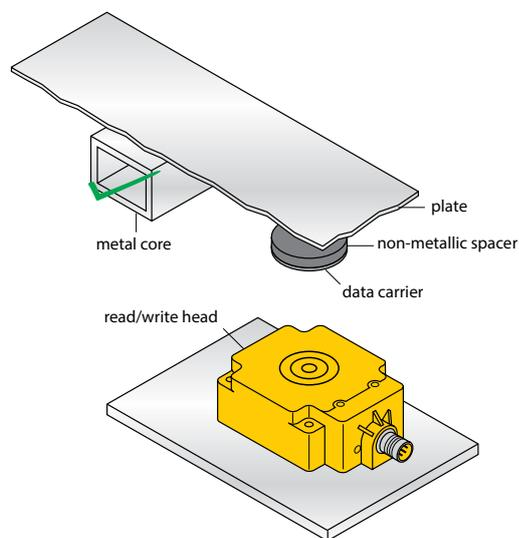

Fig. 30: Metal support outside of the transmission zone between the tag and the read/write head.
► Position the tags and read/write head in such a way that there are no more metal supports in the transmission zone (see Fig. 30).